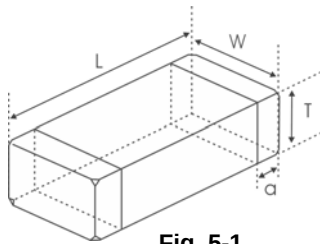
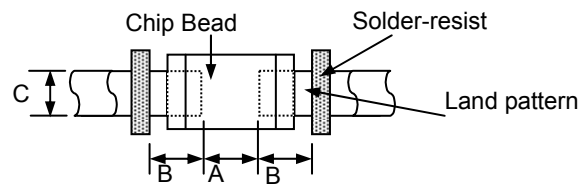

Fig. 5-1
Fig. 5-2
- 1) Dimensions and recommended PCB pattern for reflow soldering: See **Fig.5-1**, **Fig.5-2** and **Table 5-1**